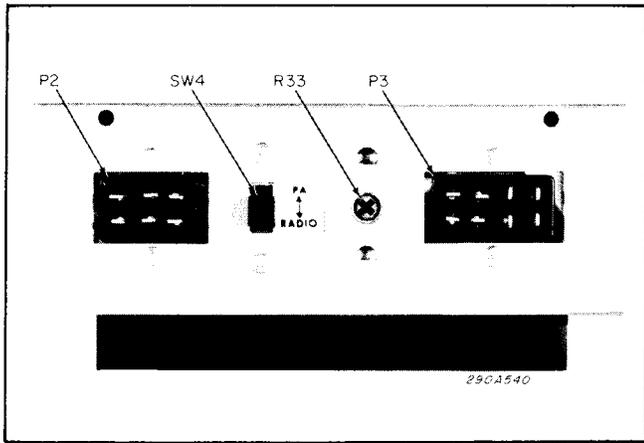

Figure 3. Rear View of PA-200.
The power cable included in the carton is equipped with an eight prong plug (J3) that mates with the connector (P3) on the rear of the electronic siren (see figure 3). The various wires on the connector must be connected as described below.
1. Set the PA-RADIO switch, located on the rear panel (see figure 3), to PA. This sets the PA-200 to the PA override mode of operation.
2. Obtain Federal radio cable Model FN212 or Model FN203. Plug the cable into the 6-pin connector (P2 in figure 3) located at the rear of the unit.
1. Set the PA-RADIO switch, located on the rear panel (see figure 3), to RADIO. This sets the PA-200 internal circuitry to the common microphone mode of operation.
After the PA-200 is completely installed in the vehicle, set the SELECTOR switch to PA. Depress the microphone push-to-talk switch, speak in a normal voice, and adjust the GAIN control for a desirable listening level outside the vehicle. Turn-on the vehicle's two-way radio and adjust the volume to a comfortable listening level inside the vehicle. Then, set the SELECTOR switch to RADIO. Stand outside the vehicle and note the radio re-broadcast loudness. If too loud or soft; adjust R33, located on the rear panel (see figure 3), for the desired level. If the volume outside the vehicle was too loud, adjust the control counterclockwise. If too soft, vary the control clockwise until the desired level is obtained.
of the resistor control (R33) located on the rear panel of the Siren Module (see figure 3). (Refer to Section 3-4.D).